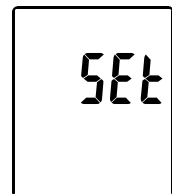

Fig.5
- (1) Turn off the unit.
- (2) Enter SETUP mode by pressing and holding MIN/MAX button and then press OFF power button to turn on the unit. "SEt" blinks on the LCD screen. (see Fig.5)